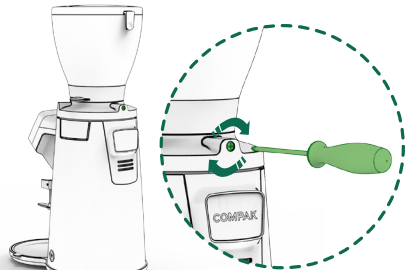

Fig. 2
Lock the hopper (2) in place using a Phillips head screw driver to gently tighten the hopper security screw making it match to the hole at the bean hopper collar (3) (Fig. 2).